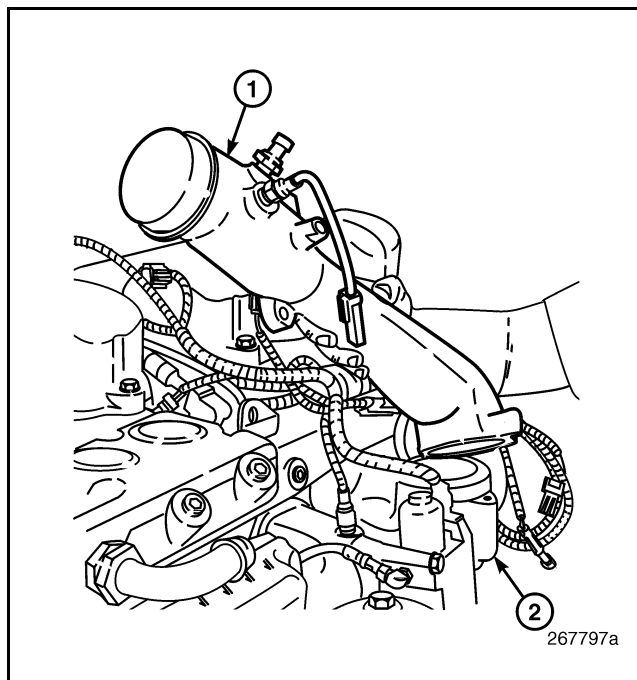

Figure 428 — EGR Mixer Tube Installation
3. Place the mixer tube in position on the inlet manifold (Figure 428) and install the two mounting capscrews. Tighten the capscrews to specification, 40 lb-ft (55 N•m).